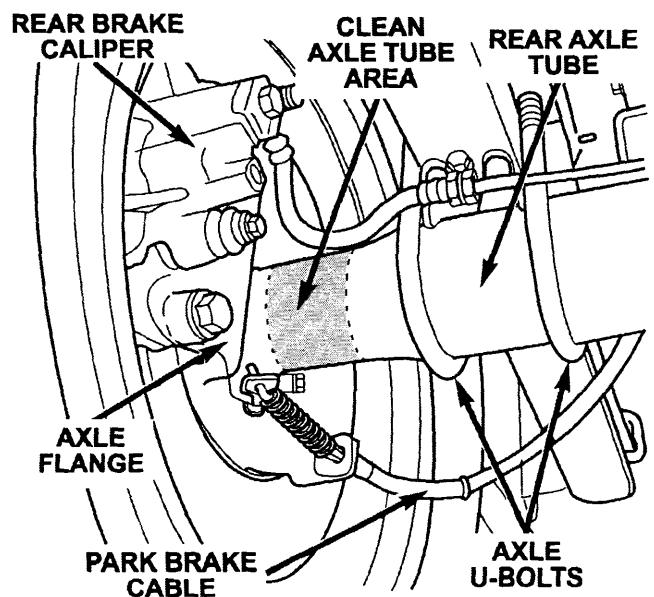

Figure 1 - Left Side Shown
2. Using Mopar Brake Clean (P/N 04897150AB) or equivalent and a shop towel, remove all dirt, mud and/or rustproofing from the axle tube between the axle flange and the axle U-bolts (Figure 1).